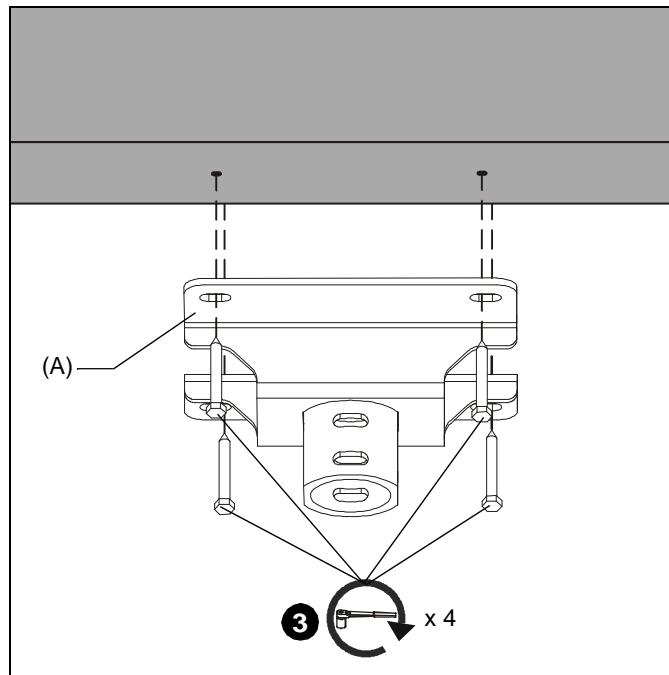
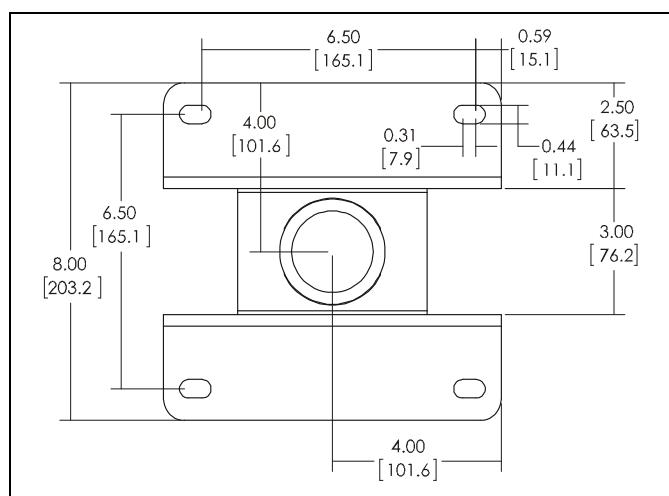

Figure 2
Figure 3
3. Install and tighten four 5/16" x 2-3/4" (minimum) lag screws (not included) through CPA330 (A), into wood stud cross bracing. (See Figure 2) (See Figure 3) for dimensions details.
2. Secure the threaded rods to the CPA mount with ASTM A307 or better 3/8" jam nuts (not provided) and washers (one of each on inside and one of each on outside-not provided). (See Figure 3) for dimensions details.
1. Using ceiling plate (A) as a template, mark locations of four pilot holes on ceiling.
3. Use four UX10 anchors (not provided) to secure CPA mount into solid concrete ceiling. (See Figure 3 for dimensions details.)